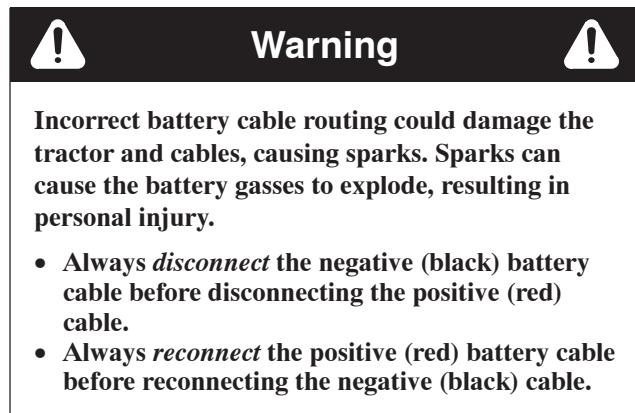

**Figure 56**
2. Remove capscrews securing battery tray to machine and slide tray out (Fig. 56).
- Remove negative (–) battery cable connectors from batteries (Fig. 56). Connect a 3 to 4 amp. battery charger to the posts. Charge the batteries at a rate of 3 to 4 Amperes for 4 to 8 hours.